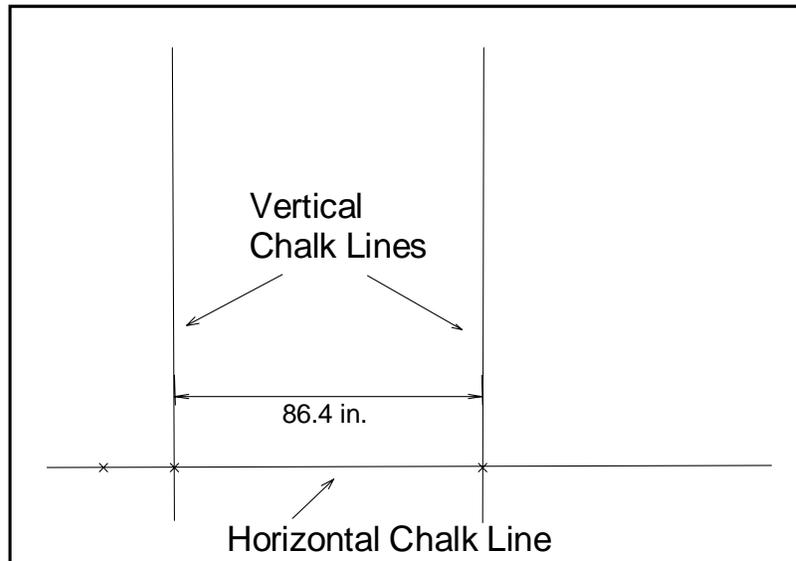

Figure 4
- 1.6 At each marked position on horizontal line snap a vertical chalk line sufficiently long to mark all rows of PV shingles (see figure 4).
Reference figures 4 and 5 for steps 2.1 and 2.2.